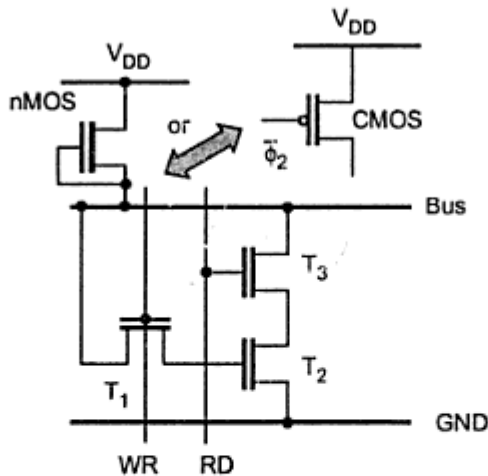

Fig. 9.24 Three-transistor dynamic memory cell
- A three-transistor DRAM cell is shown in Fig. 9.24.